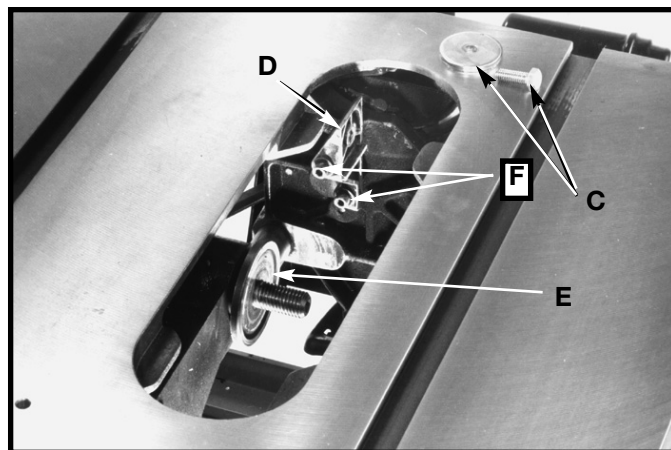

Fig. 18
5. If alignment is necessary, loosen the two screws (F) Fig. 18, align bracket (D) with the inner arbor flange (E), and tighten screws (F).
6. Loosely assemble large washer and screw (C) Fig. 18, to the inside splitter bracket. This screw and washer was removed in **STEP 3**.